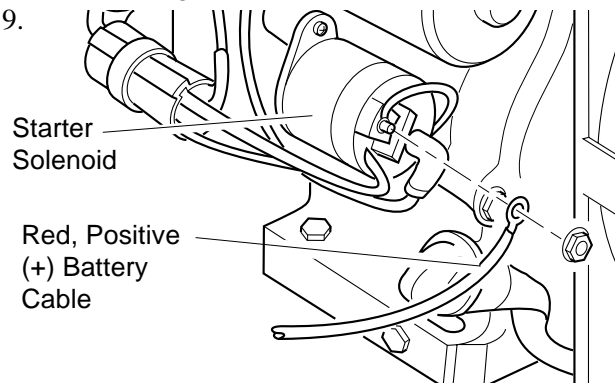

Figure 8 - Connecting Red, Positive (+) Battery Cable to Engine Starter Solenoid
1. Attach the red, positive (+) battery cable to the starter solenoid on engine (see Figure 8).